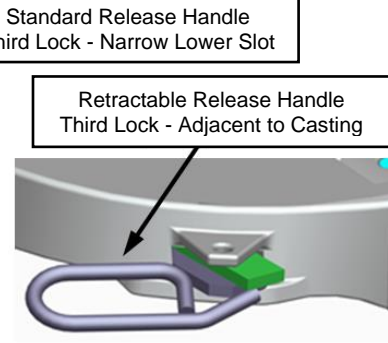

Figure 8
- The Retractable Release Handle loop must be adjacent to the casting (See Figure 8).